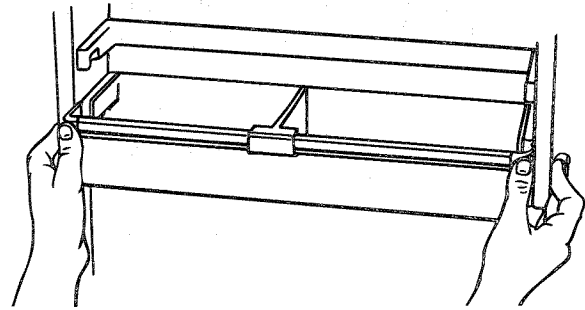

Figure 20
- d. To install, slide bucket into grooved area until tabs lock into place. See Figure 20.